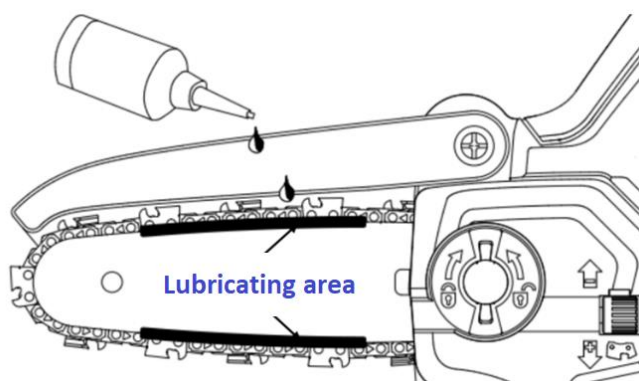

Fig. 8
- Apply multifunctional oil in lubricating area between guide bar and saw chain. See Fig. 8.